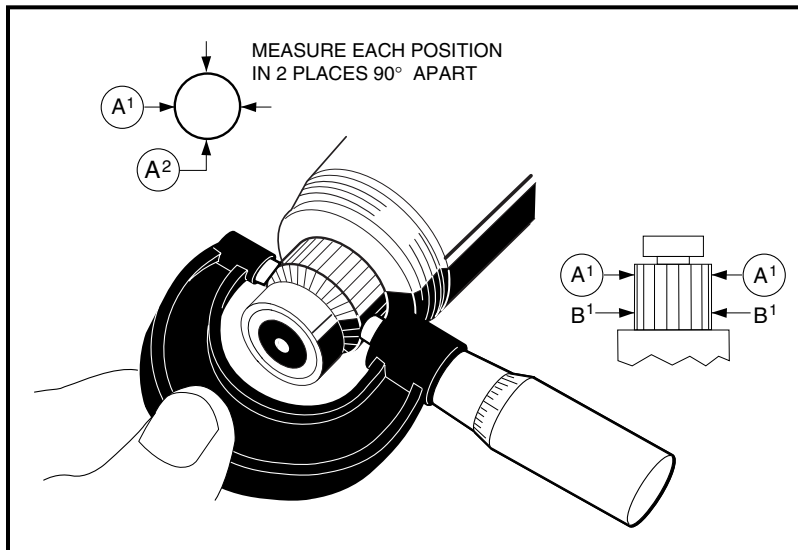

FIGURE 12-46
2. Using a micrometer, measure the outside diameter at two points along the commutator. If the commutator outside diameter is less than 1.535 inches (39 millimeters), replace the armature and bearings (**Figure 12-46, Page 113**).